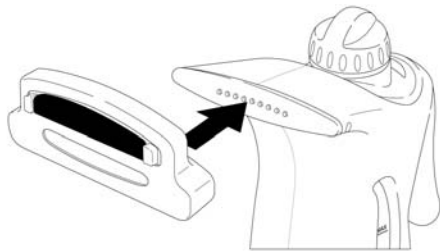

FIGURE 2
2. Slide Rubber Accessory Housing (with inserted accessory) onto Steam Nozzle as shown (FIGURE 2). Make sure that holes on Steam Nozzle are aligned with open slot on Rubber Accessory Housing so that steam is not blocked.